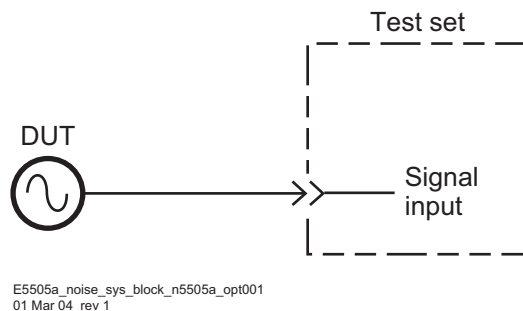

Figure 217 AM noise system with N5500A opt 001
- 1 Using information shown in Figure 222 and Figure 223 on page 301, Connect the circuit and tighten all connections. If the N5500A Option 001 or N5507A is available, use one of the connection diagrams described in Figure 217 on page 295.